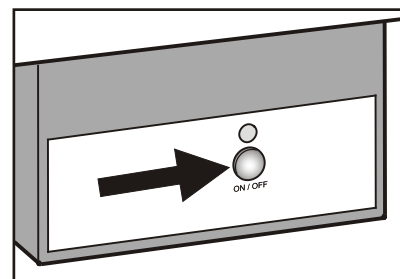

Figure 23
- Press the “ON/OFF” button so the control lamp comes on (**Figure 23**).
- Press the button on the Ice Maker housing (**Figure 23**) for approx. 3 seconds. The LED above the button starts blinking.